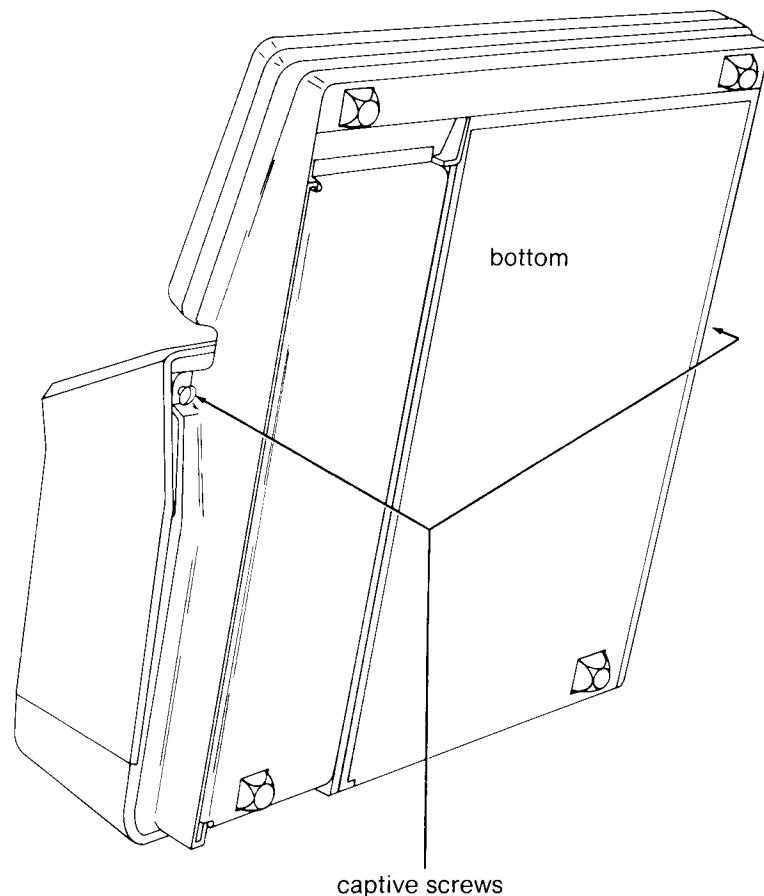

Figure 3
6. Tilt the Apple III on its back. Use the screwdriver to loosen (a quarter turn in a counterclockwise direction) the captive screws holding the Apple III's top cover in place. See Figure 3 for captive screw locations.